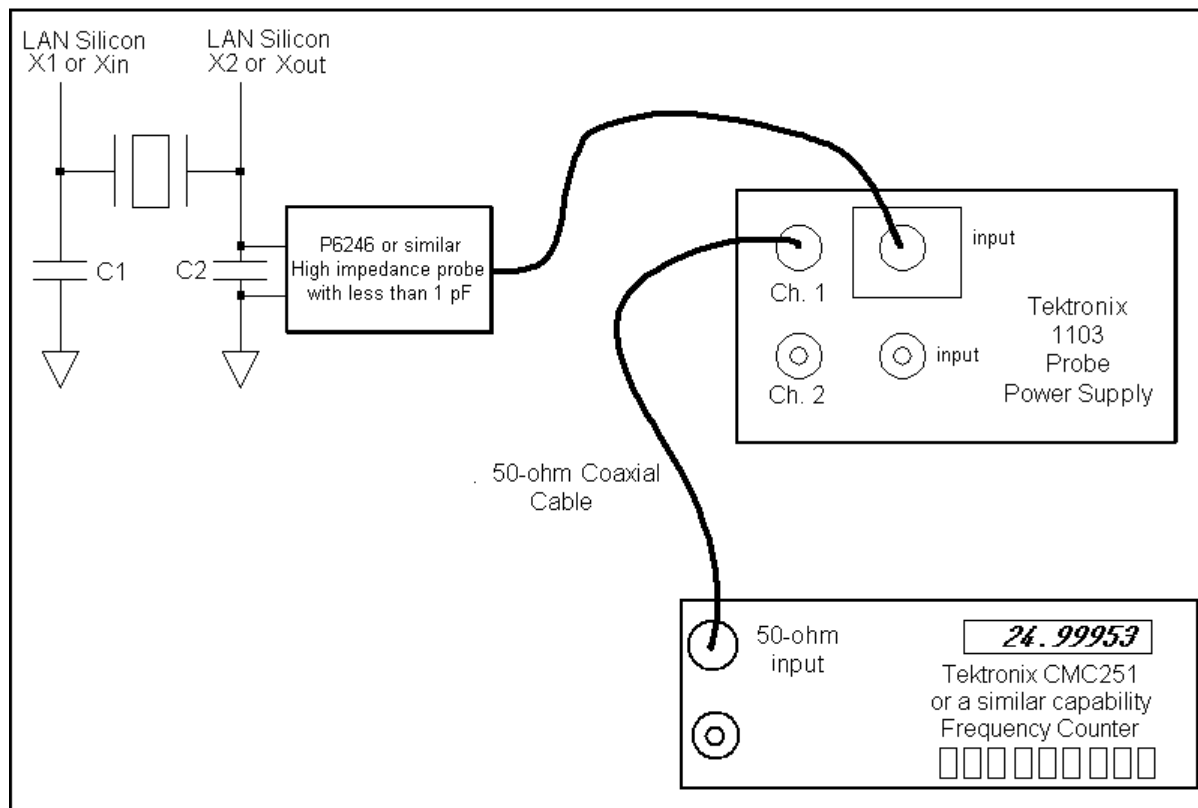

Figure 14. Direct Probing Method
The probe should be connected between the X2 (or Xout) pin of the LAN device and a nearby ground. Typically, it is possible to connect the probe pins across one of the discrete load capacitors (C2 in Figure 14).
2. Connect the test equipment as shown in Figure 14.